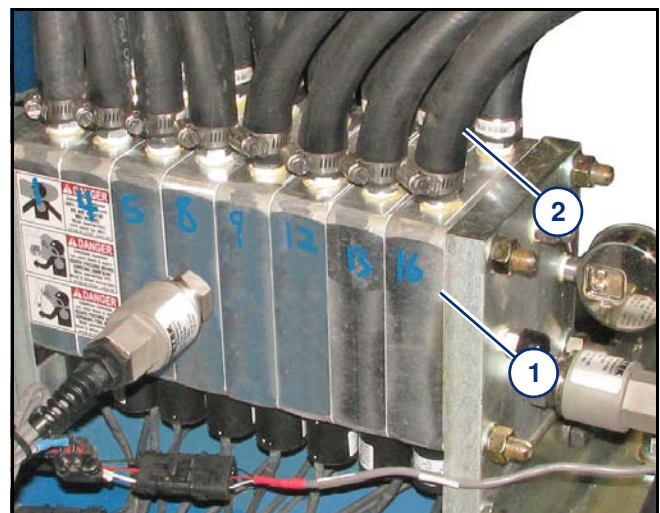

Figure 2
**[Figure 2]** - Use a marker to label each N-Ject® manifold valve (1) to identify the implement row that connects to the manifold valve.